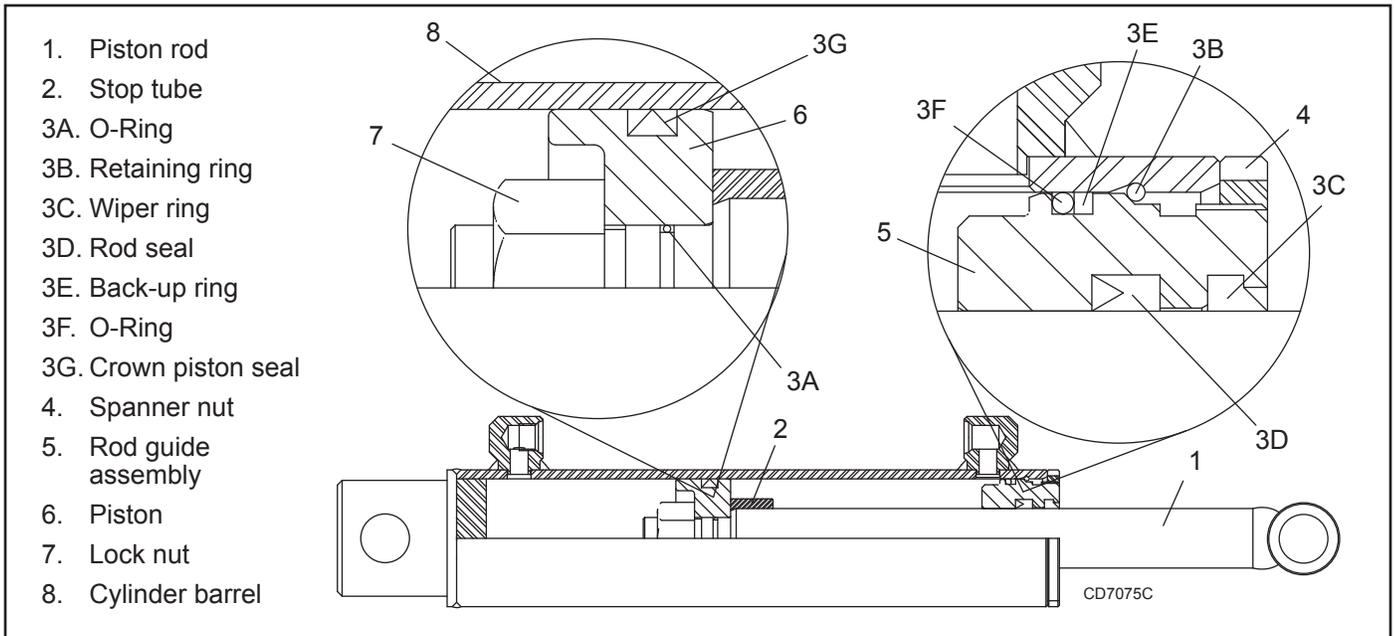

Figure 16. Spanner Nut Cylinder Assembly
Lightly coat rod threads with hydraulic oil and slide O-ring (3A) over threads and into groove. Install stop tube and piston (6) onto rod (1) as shown in Figure 16.